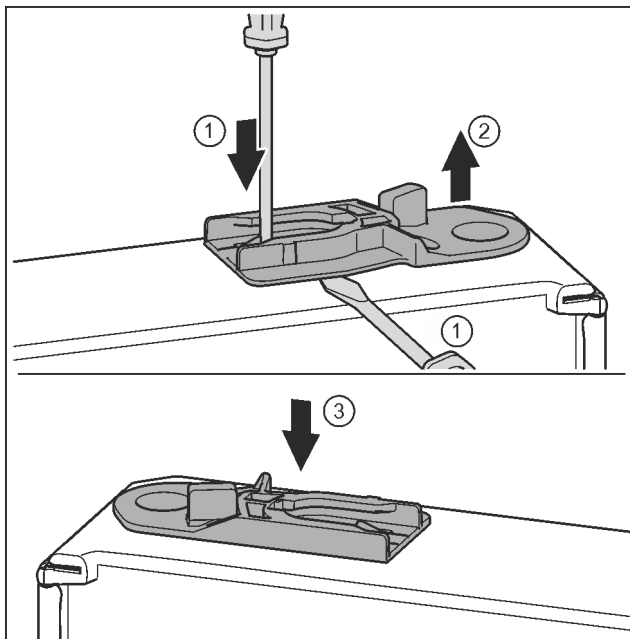

Fig. 32
- ▶ Pull out the guide bush: Press the tab with a slotted screwdriver and, at the same time, insert the slotted screwdriver under the guide bush. Fig. 32 (1, 2)
- ▶ Slide the guide bush included in the scope of supply to the other side of the housing. Fig. 32 (3)